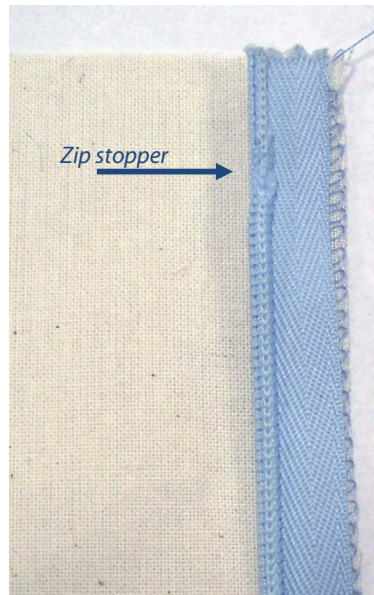

Figure 8
3. Identify the right side of the zip. (The teeth do not show on the right side.) Open the zip and place the right side of the zip tape to the right side of the garment. The top of the zip should align with the top edge of the fabric (see Figure 8).